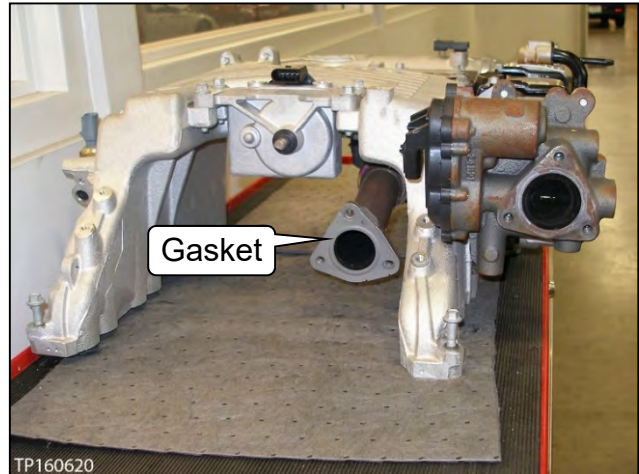

Figure 80
22. Replace the EGR bypass tube gasket with a new one (see Figure 80).